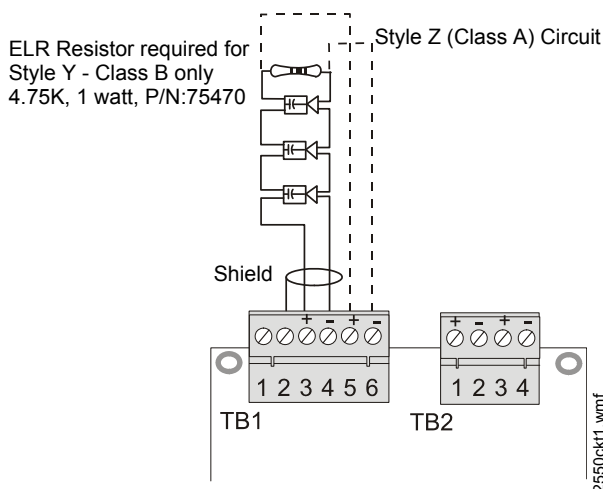

Figure 3.12 Speaker Circuit Connections
8. Connect field wiring to newly installed amplifier. Figure 3.12 on page 42 for illustration of speaker connections if amplifier is being used to expand system to 50 watts (i.e. providing dual 25 watt speaker circuits). Figure 5.3 on page 62 for illustration of connections if amplifier is being used as a backup.